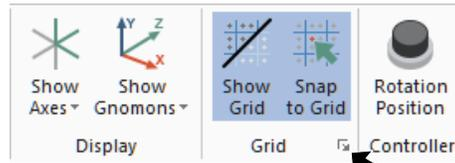

Fig. 10
Step 4. Click the **Dialog Box Launcher**  (Alt-G), **Fig. 10**.